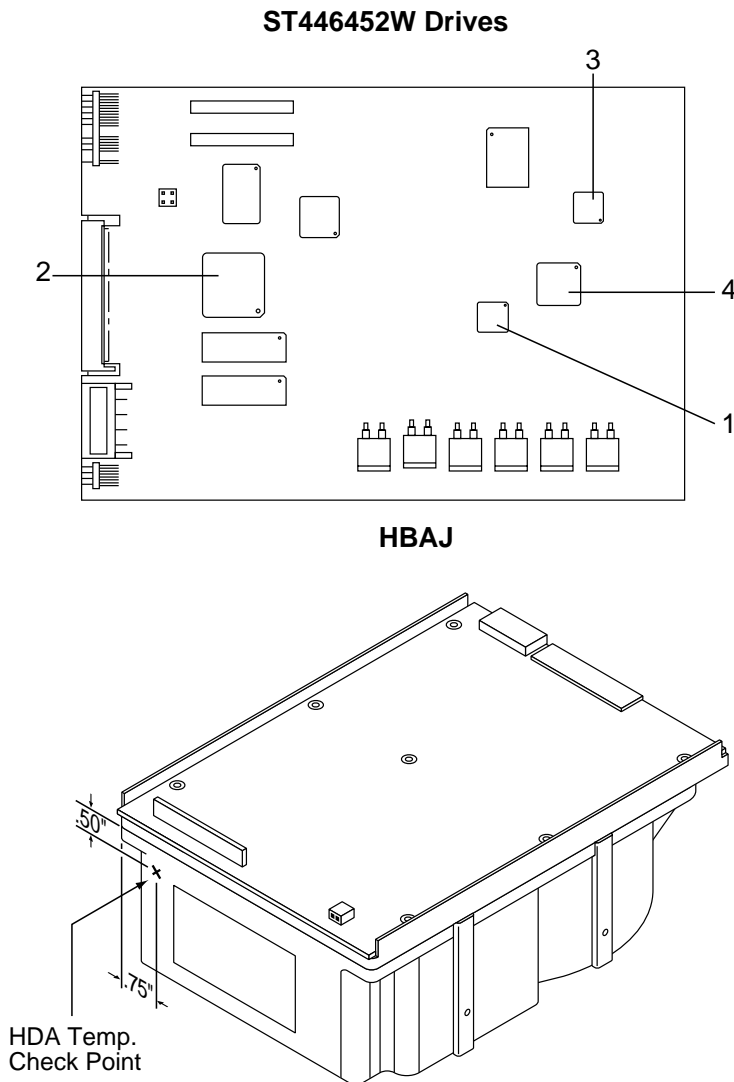

Figure 4. Location of PCBA components listed in Table 2
- [3] Measure HDA temperature at point labeled “HDA Temp. Checkpoint” on Figure 4.